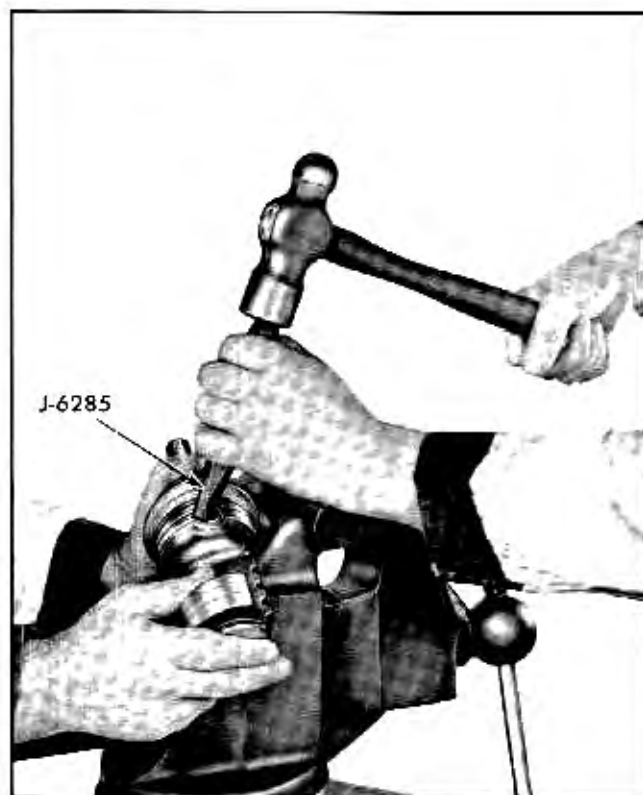

Fig. 9-57 Staking Ball Nut Retaining Screw
10. Install new ball nut retaining screw and tighten to 30-35 lbs. ft. torque using tool J-6223. Stake screw securely into place using tool J-6285. (Fig. 9-57).